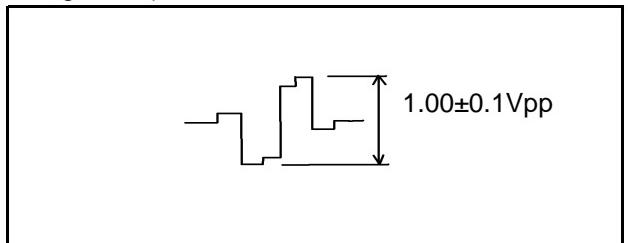

Figure 54. YC PR-level Output Adjustment
10. Confirm the PR-level is $1.00\pm0.1vpp$ (see Figure 54).